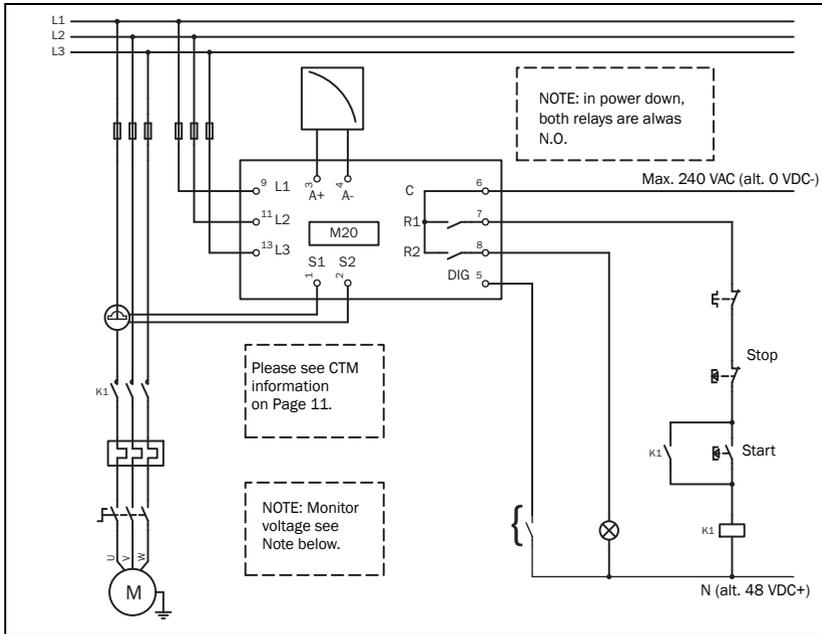
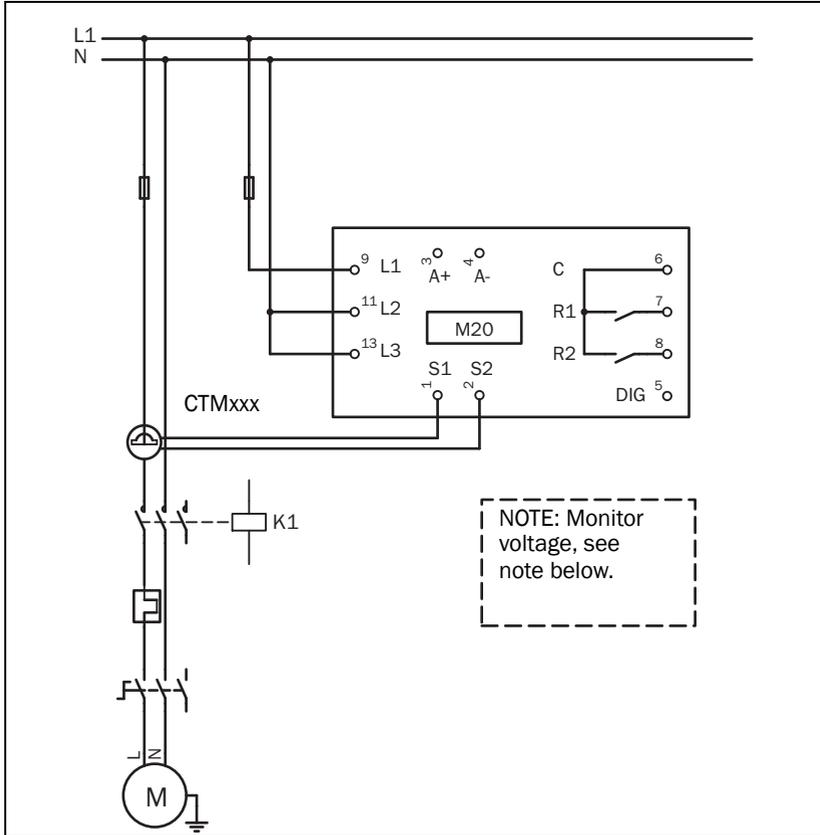

Fig. 1 Connection example
Fig. 2 Single-phase connection example.
1. Connect the Emotron M20 according to chapter 5 and Fig. 1.
The following wiring diagram provides an example of how the M20 can be connected to control the start/stop circuit of a three-phase motor, Fig. 1. Connections to a single-phase motor are described later in this manual (Fig. 2) as are the programming changes necessary for such applications. The default setting for the M20 is 3-phase.
1. The current transformer CTMxxx must be placed in the same phase that is connected to terminal 9, phase L1, see Fig. 1. Failure to follow this requirement will result in the monitor failing to function.
2. For single-phase connection see fig 2.
Note: The current transformer (CTMxxx) must be placed in the same phase that is connected to terminal 9, phase L1, see Fig. 1.
NOTE: If the START/STOP is connected as per Fig. 1, it is recommended that terminals 6 and 7 be bypassed during programming. After the programming is completed the bypass must be taken out. Make sure that the monitor voltage range e.g. 3x380-500 VAC matches the connected motor/line voltage, e.g. 3x 400 V.
This wiring example shows the connections required for single-phase applications. Refer to Fig. 1 for the remaining wiring.
NOTE: In Fig. 2 make sure that the monitor voltage range e.g. 1x100-240 VAC matches the connected motor/“line - neutral” voltage, e.g. 1x 230 V.
The digital input uses terminals 5 (DIG) and 6 (C - reference). Either a VAC or a VDC signal may be used. Connect + to terminal 5 (DIG) and - to terminal 6 for VDC signal. Please note the polarity when DC voltage is used. See also Fig1 and terminal 6: Max. 240 VAC (or 0 VDC-) and on terminal 5: N (or 48 VDC+). See also chapter 9, Advanced Features.